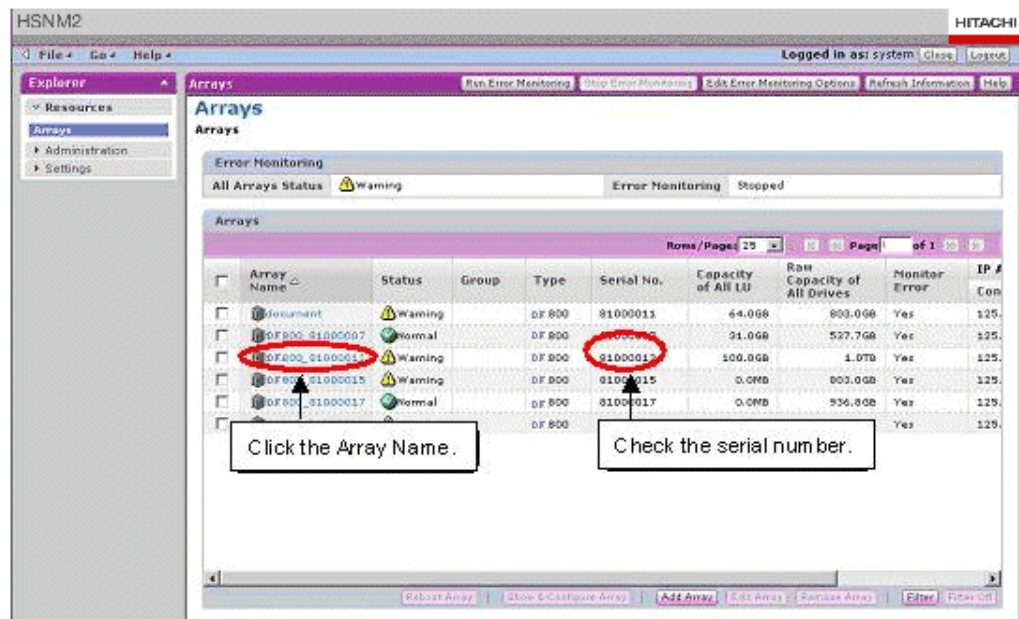
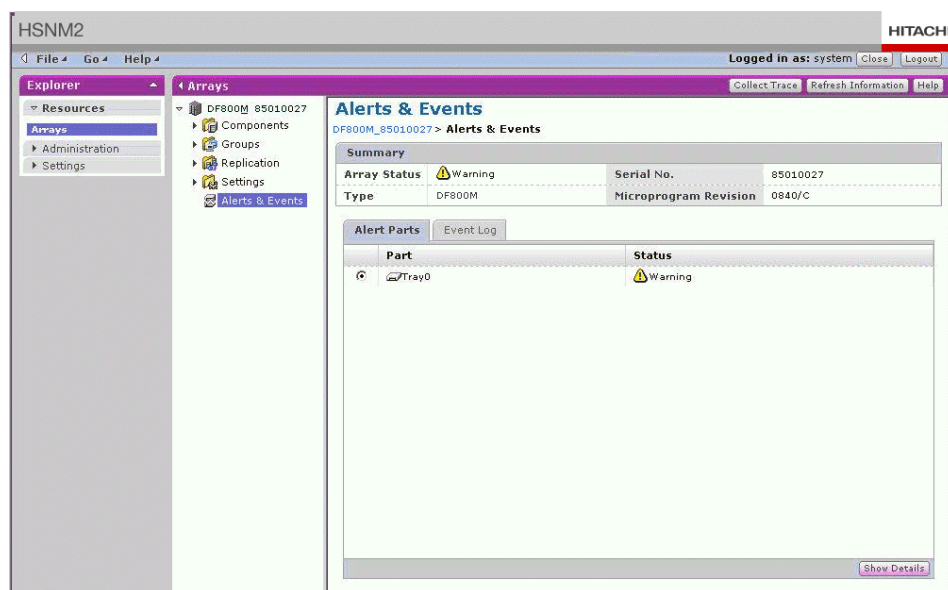

Figure 8-3: Locating the Array Name and Serial Number
Figure 8-4: Example of the Failure Parts List Tab
3. In the **Arrays** area, check the status and serial number of the array where the failure occurred (see Figure 8-3 on page 8-11).
4. If you received an email about the failure or used SNMP to detect the failure, check that the hardware serial number in the email/SNMP matches the one on The AMS 2100/2300 array (see Figure 8-3 on page 8-11).
6. From the Arrays area shown in Figure 8-3 on page 8-11, click the name of the array. When the next screen appears, click either **Alerts & Events** in the Array List window or **Check for Errors** in the Common Array Tasks area. In the **Alert Parts** tab, check for the failed part, such as a disk drive (see Figure 8-4).